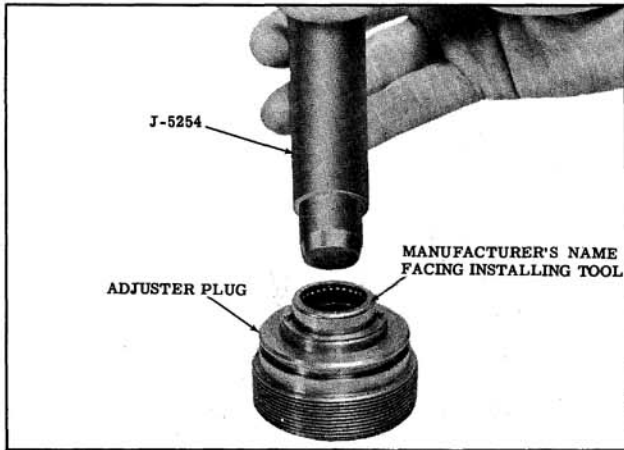

Fig. 8-50 Installing Bearing
1. If the needle bearing was removed, place new needle bearing over Tool J-5254 with the manufacturer's identification against the tool and drive or press bearing until it is flush with the surface of the seal bore. (Fig. 8-50)